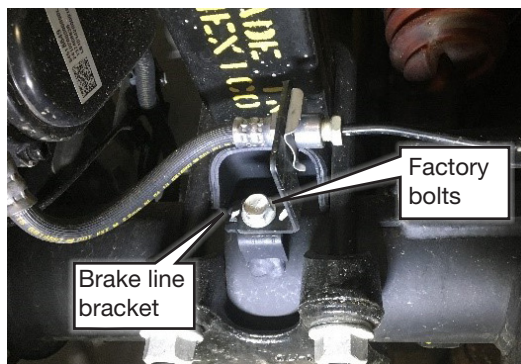

Fig. 9
7. Attach the brake line tab bracket (G) using the previously removed factory hardware and tighten securely on both sides of the vehicle (Figs. 9 & 10).